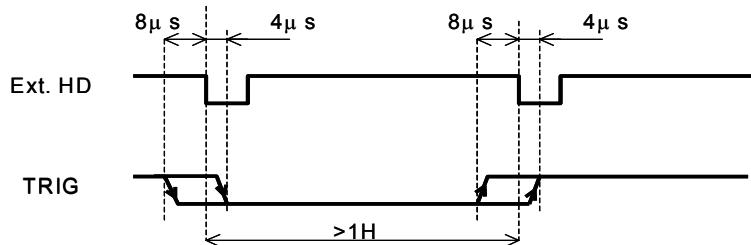
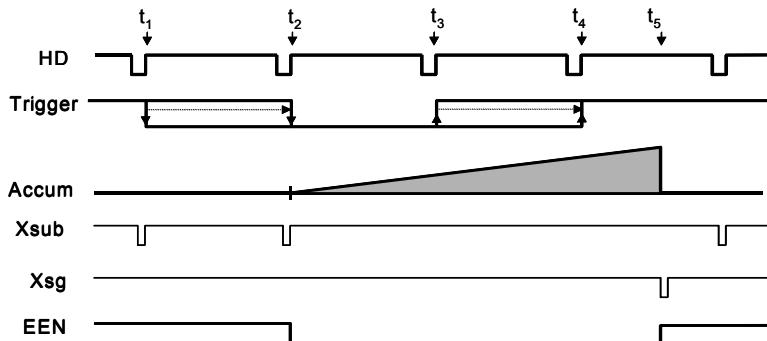
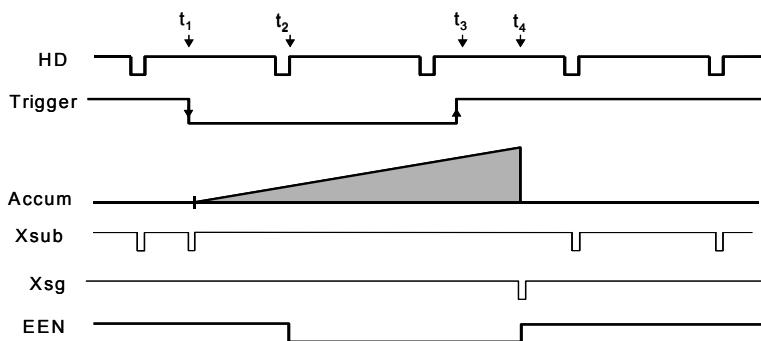

Fig. 17. Trigger/HD Timing.
Fig. 18. Pulse Width H Synchronous Accumulation
Fig. 19. Pulse Width H Asynchronous Accumulation.
The default accumulation is HD synchronously accumulation (HC=0). The accumulation starts at the first HD after the trigger leading edge. Fig. 18. To avoid the $<1H$ jitter caused by this delay, synchronize the external trigger to HD as shown in fig. 17 below. The trigger level translations should be placed inside the $8 + 4 \mu\text{s}$ intervals.
In PWC mode (TR=2) and Frame Delay readout (TR=3), the accumulation mode *HC* can be set to asynchronous accumulation (HC=1). The exposure will start immediately at the leading edge of the trigger pulse without waiting for the HD. Fig. 19. below.
- The start of exposure will start synchronized to the internal H signal. The start may be shifted max 1H. To avoid this shift (1 H jitter), synchronize the camera to an external HD and make sure that the trigger pulse aligns to the HD as shown in fig. 17.
- With HC=0 the start of exposure will start synchronized to the internal H signal. The start may be shifted max 1H. To avoid this shift (1 H jitter), synchronize the camera to an external HD and make sure that the trigger pulse aligns to the HD as shown in fig. 17. With HC=1 the exposure will start immediately. Refer to fig. 18 and fig. 19.
- With HC=0 the start of exposure will start synchronized to the internal H signal, the start of exposure may be shifted max 1H. To avoid this shift (jitter), synchronize the camera to an external HD and make sure that the trigger pulse aligns to the HD as shown in fig. 17.
- With HC=1 the exposure will start immediately. Refer to fig. 18 and fig. 19.